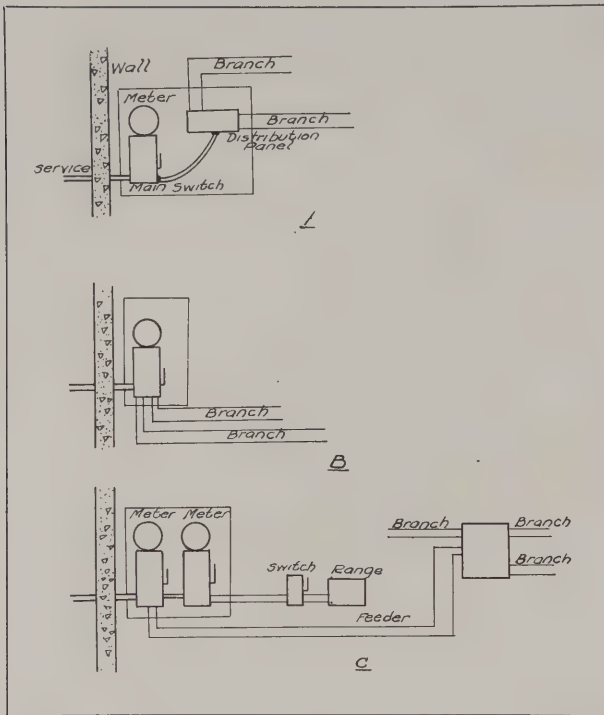
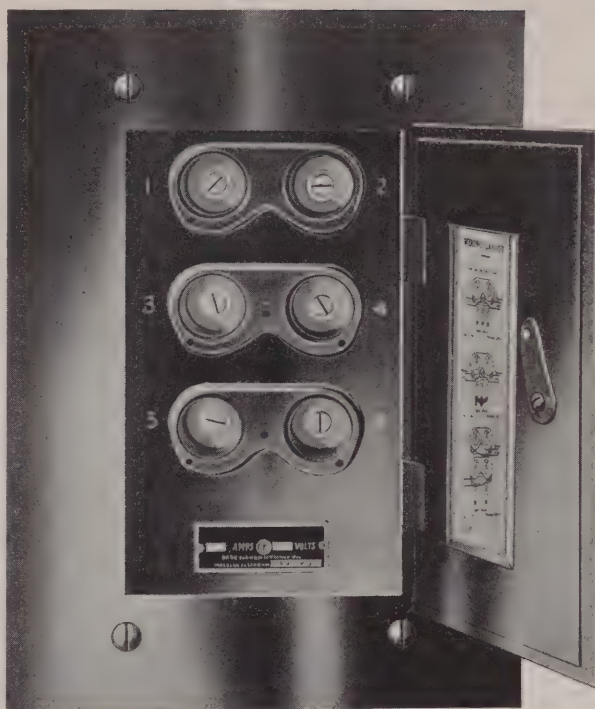

Fig. 5. Illustrating Three Methods of Current Distribution After Leaving Main Switch and Meter
Fig. 6. "Dead Front" Type of Panel Box, Used With System of Current Distribution Illustrated by Fig. 5-B
The current is now ready for distribution through the house, and one of several methods, illustrated in Fig. 5, may be employed. Scheme A shows a commonly used method. The system is divided into as many branch circuits as may be required (each limited to 15-ampere load) which terminate, at the meter board in a panel box containing either one or two plug type fuses of 15-ampere capacity for each circuit. This panel box is then fed directly from the meter. The principal objection to this method is that the burning out of a branch line fuse necessitates a trip to the basement. In order to avoid this inconvenience the panel box with the fuses is frequently placed in an upper hallway or room to make it readily accessible (Fig. 5-B). Since it is then in a more conspicuous location, it is becoming the practice to use a "dead front" type of panel box similar to that shown in Fig. 6. Aside from presenting a better appearance, all the live parts are protected from accidental contact with one's person. There has recently appeared on the market, for use with "polarized" systems, a new type of main safety switch in which the functions of safety switch and panel box have been combined. The branch plug fuses, either two or four in number, one for each circuit, are contained in this switch box along with the main fuse. The branch lines then go directly from the switch box to their prescribed places as indicated in Fig. 5-C.
(1) Lighting; (2) Primary heating devices, such as ranges; (3) Refrigerators; (4) Power (motors totaling more than 0.5 horse power). More favorable rates for power are offered for the larger current-consuming devices and according to their constancy of operation. To take advantage of these lower rates it is necessary to have installed a separate meter for each class of service. The separation of the main circuits into these various primary feeder circuits occurs at the meter, and Fig. 5-B illustrates how this is accomplished. This shows an electric range, supplied from its own individual meter, which in turn is fed from the main circuit through the principal disconnecting safety switch.